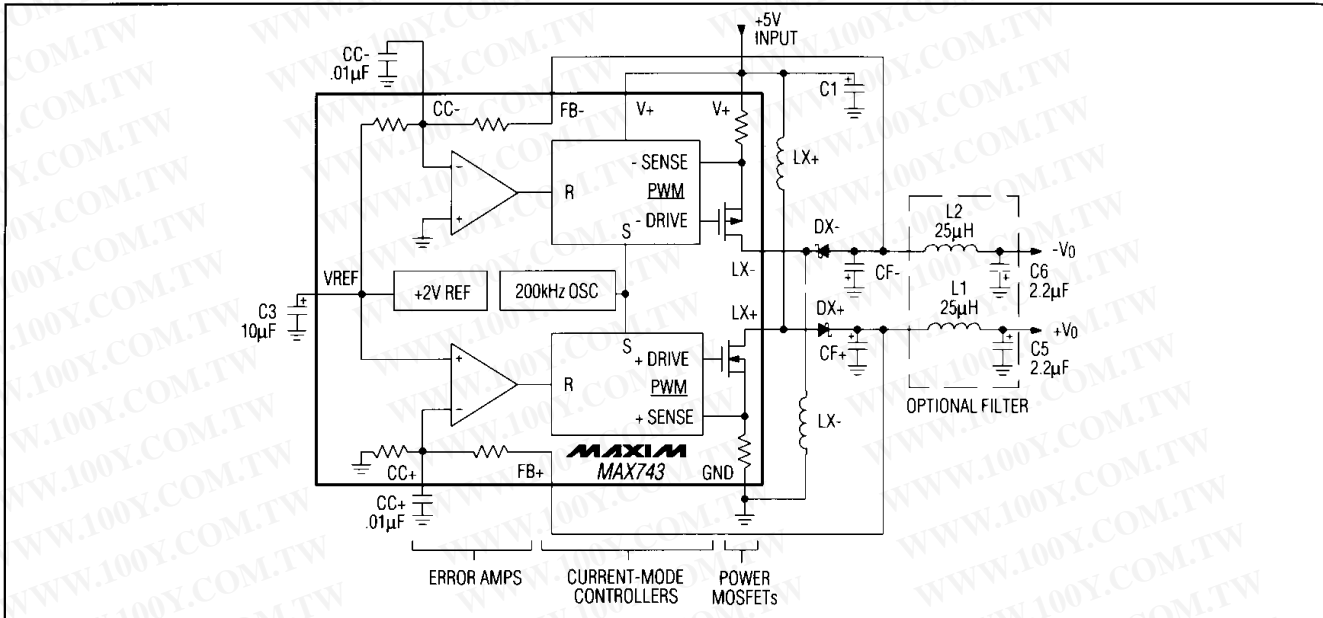
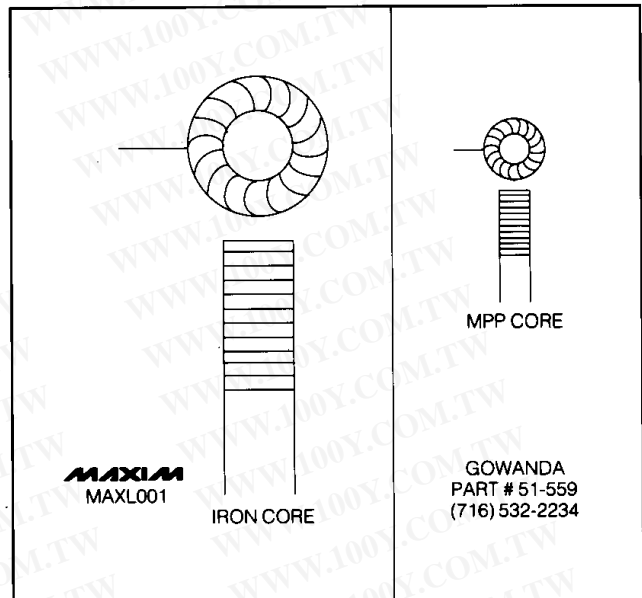
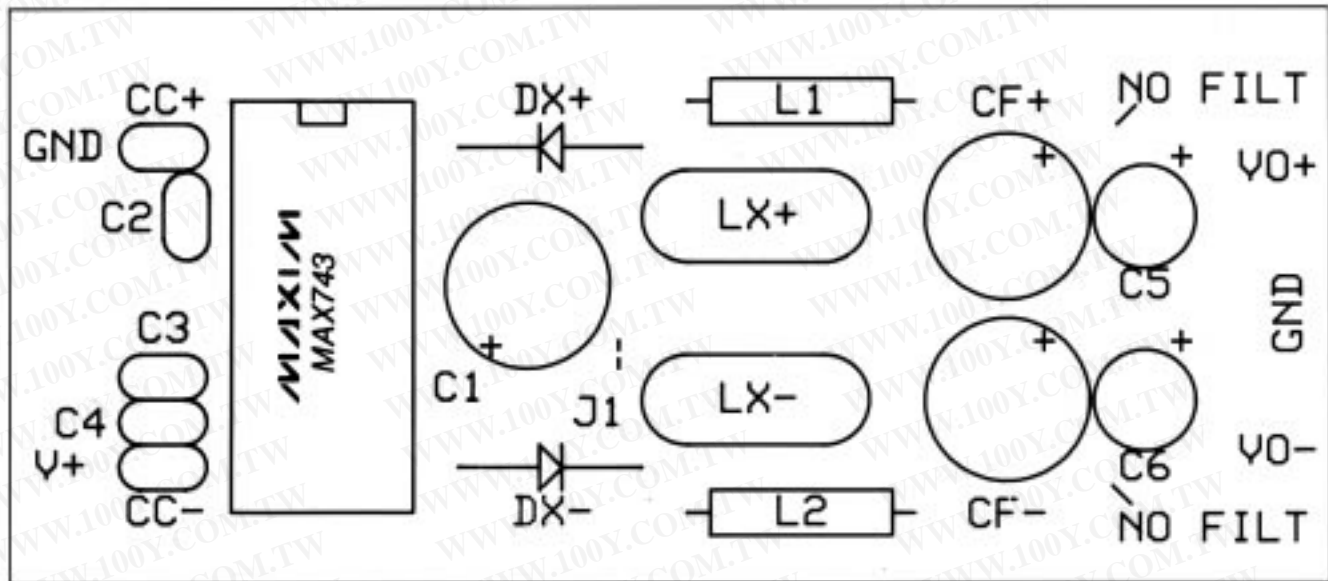

Figure 4. Functional Diagram with Optional Pi Filter
Figure 5. 100 $\mu$ H Low-EMI Inductors for 3W Supplies (Actual Sizes) (See Table 1)
Figure 7. Component Placement Diagram for PC Layout of Figure 6
The MAX743EVKIT Evaluation Kit demonstrates the output capabilities and noise performance of the MAX743 standard application circuit (Figure 1). The kit includes main switching components identical to those found in the high-volume production kit described on page 11 (MAX743CPEKIT). With a few quick modifications, the circuit can also serve as a low-noise test bed to evaluate other components, such as the miniature MPP toroid inductor of Figure 5. The kit includes optional Pi filters shown in the Functional Diagram (Figure 4), which reduce output noise to less than 2mVp-p.
**1. Build Circuit.** Assemble the PC board according to the component placement diagram of Figure 7 and the schematic of Figure 4. 3 resistors will be left over (and used for testing). The extra holes near LX and CF are options for nonstandard component sizes. Do not install jumper, J1, or C4.